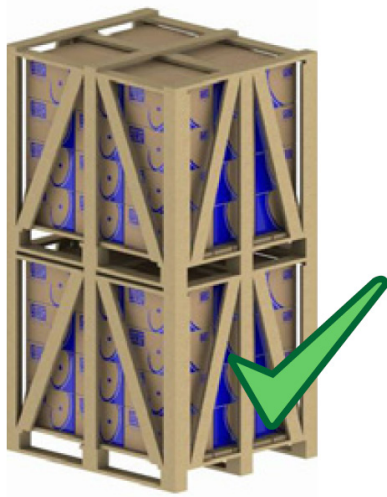
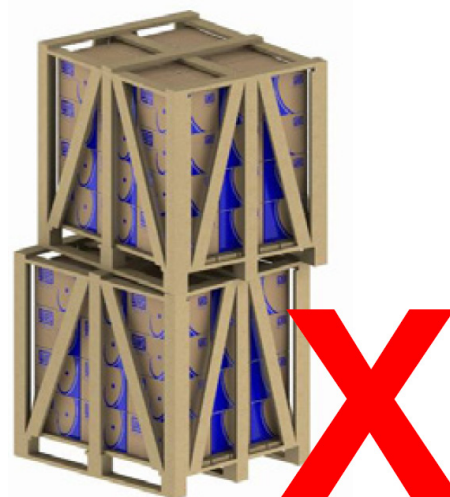

Figure 5.1: Correct stacking
Figure 5.2: Incorrect stacking
- (1) Never stack larger packaging onto smaller packaging.
- (2) Align the packaging correctly (see Figure 5.1 on page 30 and Figure 5.2 on page 30).